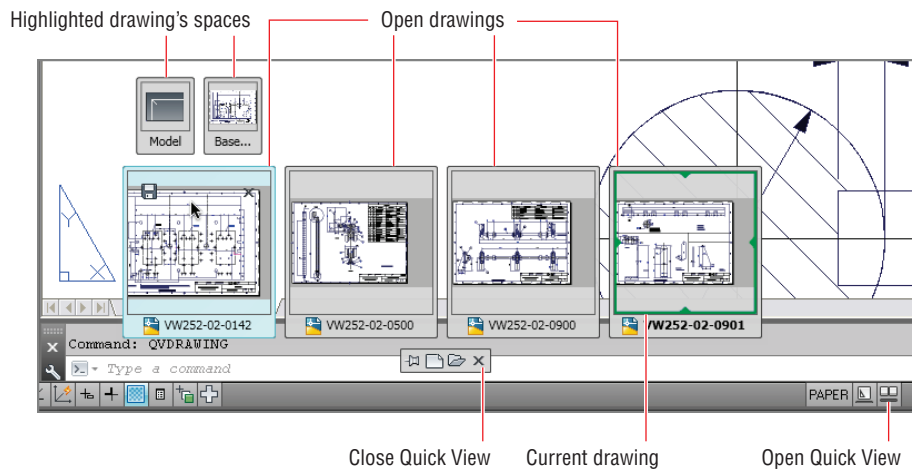

FIGURE 1.6 Accessing open drawings and their spaces with Quick View
9. Click the Quick View Drawings button in the application status bar (see Figure 1.6). Move the cursor over the first drawing, and observe that two smaller views appear above it. These are the highlighted drawing's spaces. Move the cursor over Model, and its view will enlarge. Click the model view icon to go there immediately. Use Quick View to navigate through open drawings and their spaces.